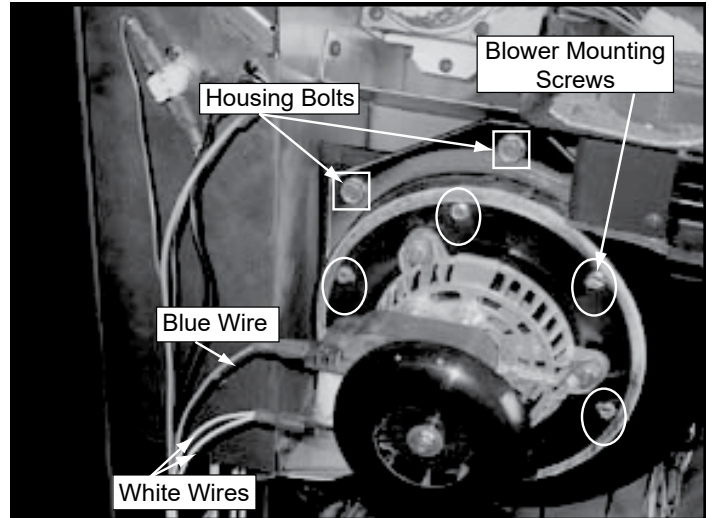

Figure 26.1
- b. Remove existing blower (**Figure 26.1**):
- i. Use the 11/32" wrench or nut driver to loosen and remove the (6) nuts holding the motor mount plate to the blower housing on your appliance.
- ii. Use 11/32" wrench or nut driver to loosen and remove the (6) nuts holding the motor mount plate to the blower housing.